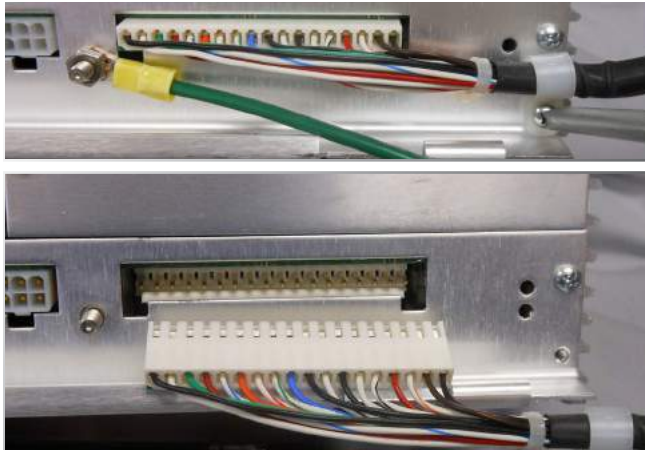

Figure 44. Removal of existing ground wire and wiring harness
5. Remove the strain relief screw (retain the screw and strain relief device) and disconnect the white connector from the side of the CL-7 control panel. See **Figure 44**.
6. Using a 3/8-inch wrench, remove the green ground wire from the side of the panel; retain the washer and nut. See **Figure 44**.